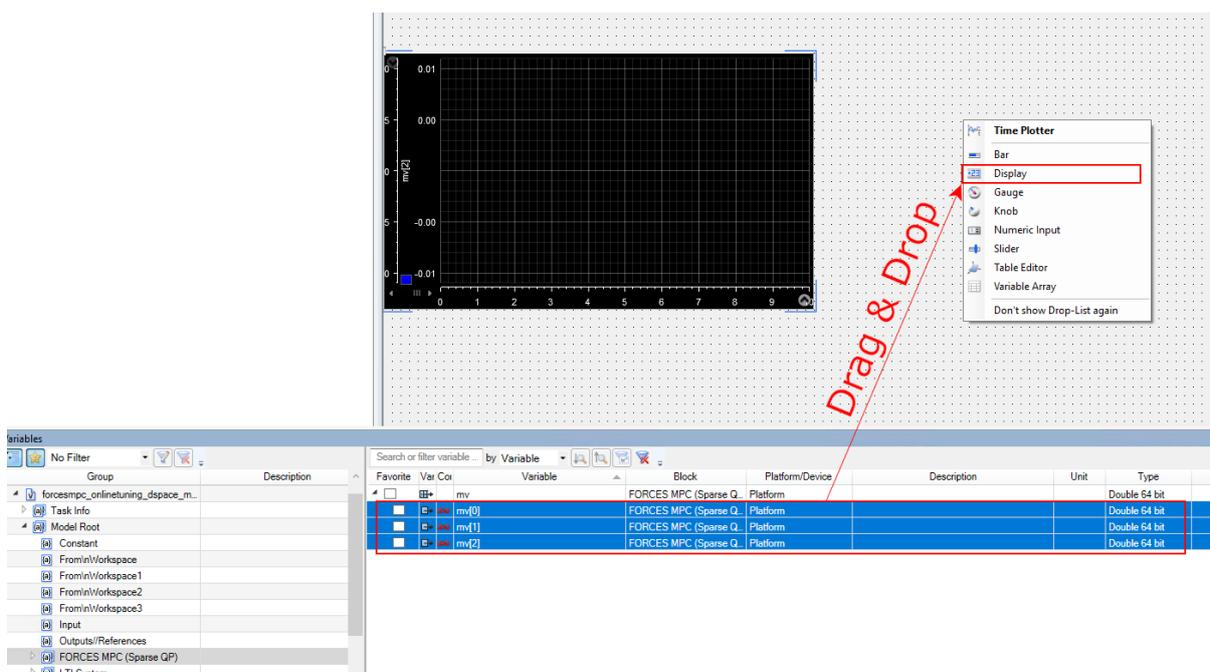

Figure 6.17: Add the variables as displays
- 13) Drag & Drop the output variables again and now choose `Display` (see Figure 6.17).